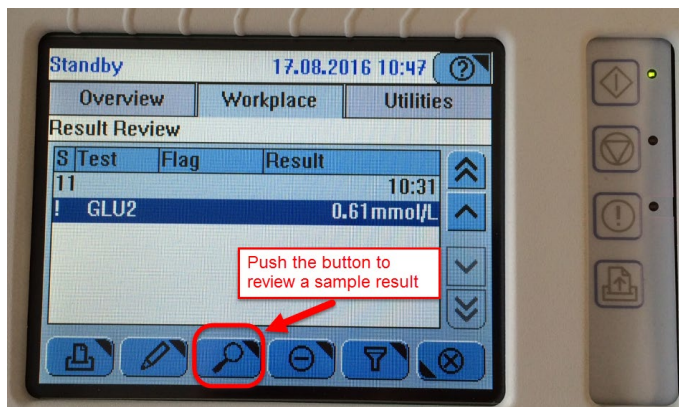

Fig 3: Result Review window on instruments with old screen versions.
2. Review the samples being processed since that exact time (Fig. 3 and 4 / 3.1 and 4.1)